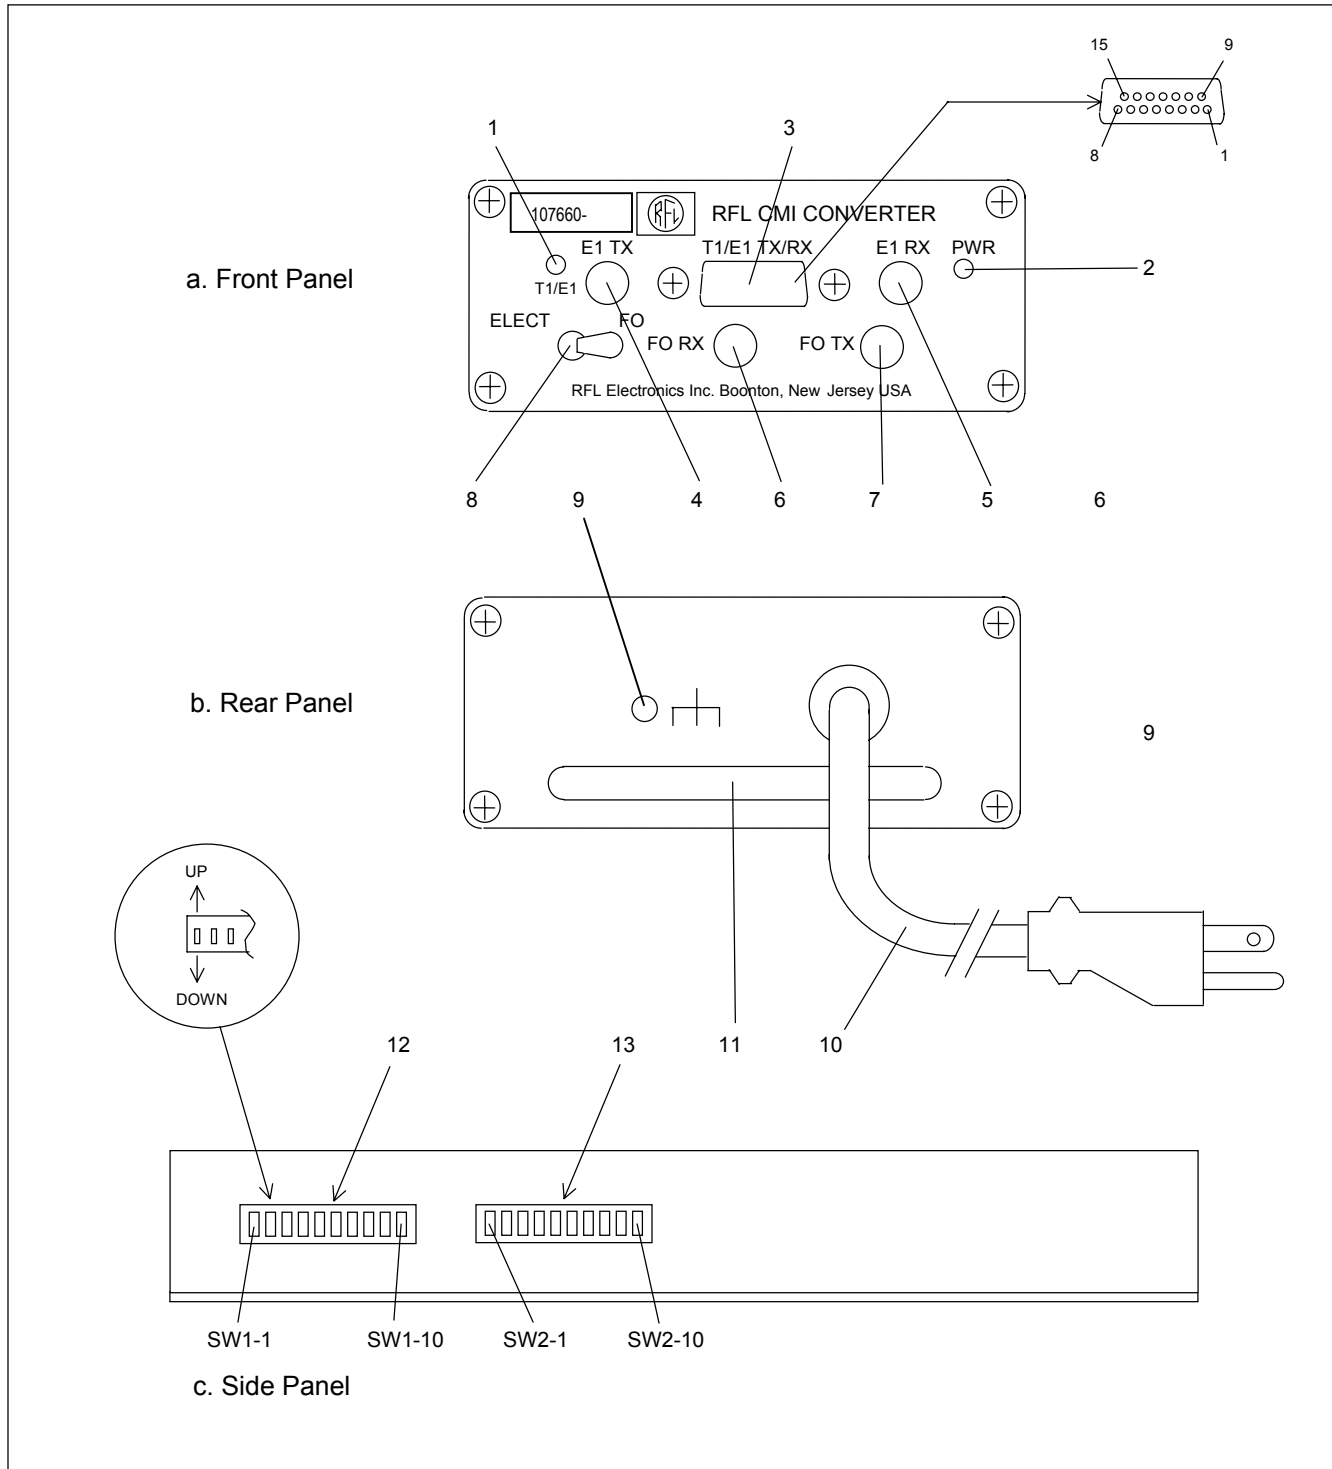
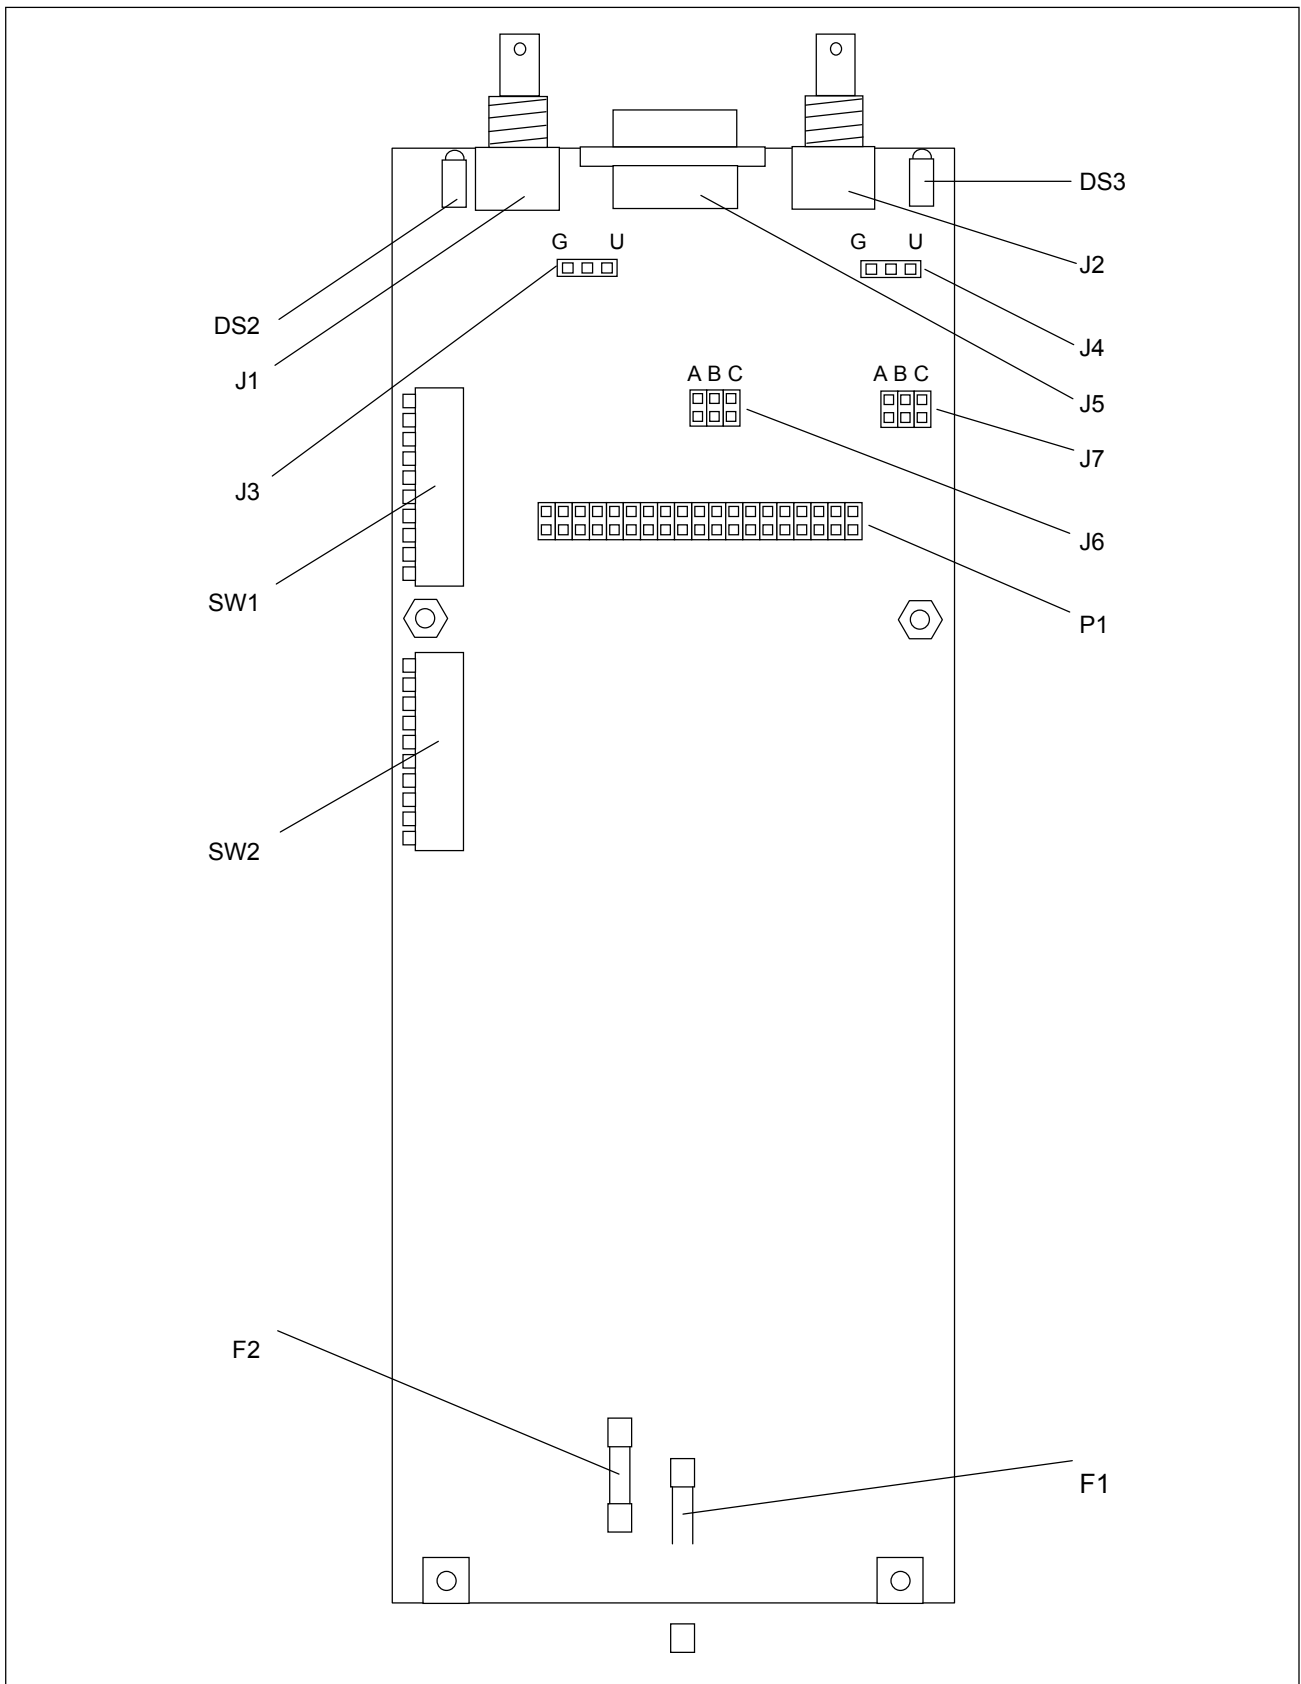

Figure 2. CMI Converter, front, rear, and side panel controls and indicators
Figure 3. Controls and indicators, T1/E1 Fiber Converter board (Board A)
The RFL CMI Converter has user controls and indicators as shown in Figure 2. The figure shows the location of all controls, indicators and connectors on the front, rear and side panels of the CMI Converter module. Figures 3 and 4 show the location of controls and indicators on Board A and Board B. The function of all controls and indicators are described in Tables 2 through 5, and Table 8.
*See Figure 3 for jumper locations